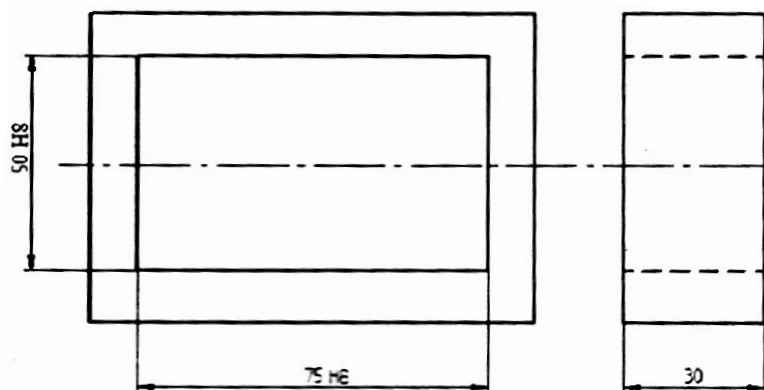

Fig: 2a
- 2 a. Calculate the limits of size for inspection gauges confirming to Taylor's principle to check the rectangular hole shown in Fig.2a. The limits of size for a 50 mm H8 hole are low limit 50.000 mm, high limit 50.039 mm. The limits of size for a 75 mm H8 hole are low limit 75.000 mm, high limit 75.046 mm. Use IS:919 or use the following information: fundamental deviation for H hole = 0, IT₈ = 25i, i(micron) = $0.45\sqrt[3]{D} + 0.001D$, 50 mm is in diameter step 30-50, 75 mm is in diameter step 50-80.